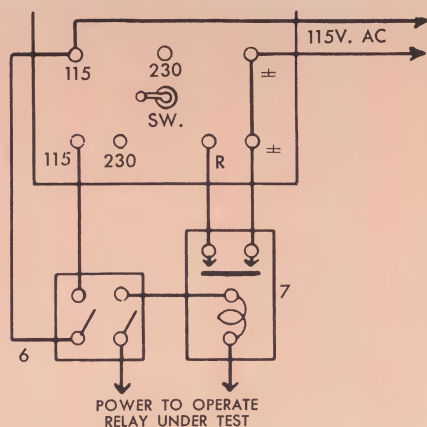

Figure 10
4. **LOCKING RELAY**. Extra fast relay used to open clutch circuit when testing circuit closing relays. (Figure 10)